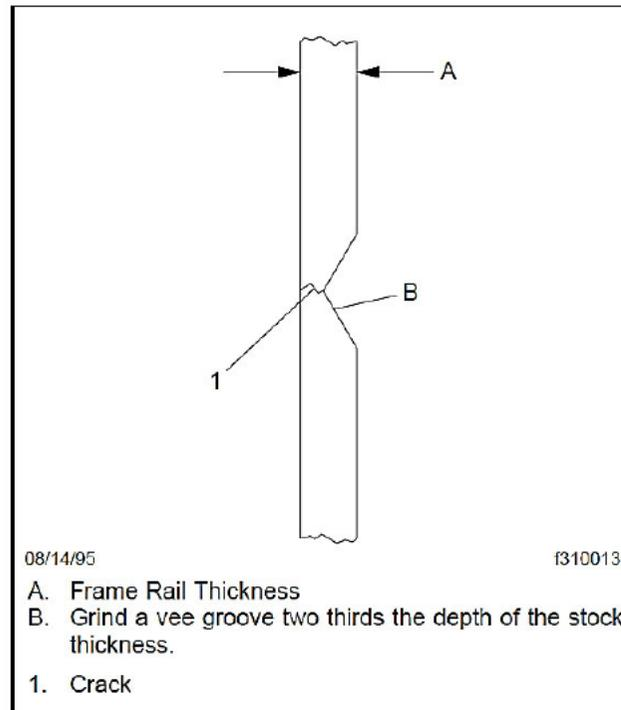

Fig. 2, Cross-Section View
2. Vee out the crack to a depth of two thirds of the stock thickness. See Fig. 2.